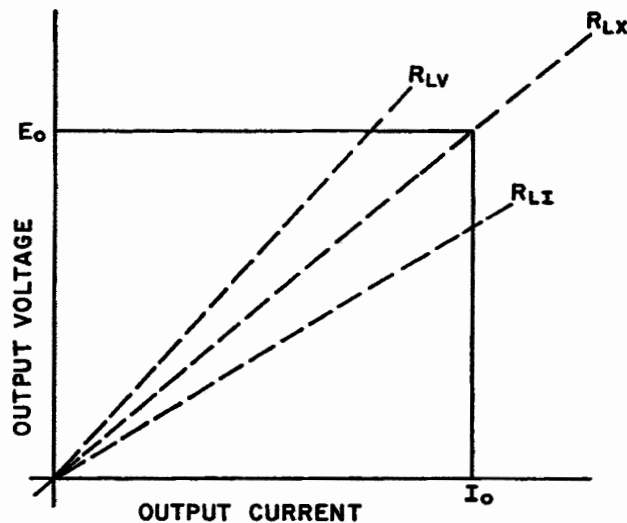

FIG. 4-1 CROSSOVER CHARACTERISTICS, ATE POWER SUPPLY.
$$R_{LX} = E_o / I_o \text{ (See FIG. 4-1).}$$
- 4-3 Any load resistance, *smaller* than R_{LX} (as for example R_{LI} in FIG. 4-1) will transfer the ATE into the "Current Mode." With a load resistance *larger* than R_{LX} (as for example R_{LV} in FIG. 4-1), the ATE will operate in the "Voltage Mode."